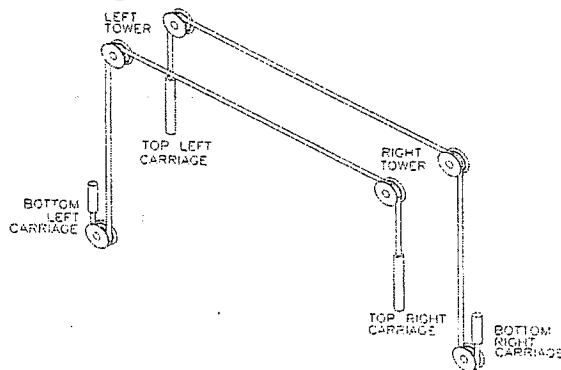
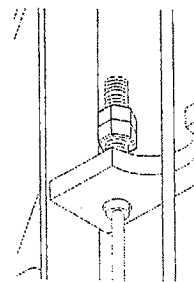
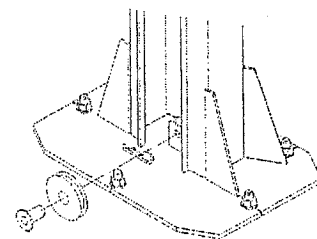

Figure 6a
Figure 6b
Figure 6c
2. Remove equalizing cables from the accessory kit box, and then locate the (8) $\frac{1}{2}$ "-13UNC nuts from a polybag in the hardware kit box.
3. Equalizing cables are to be routed as shown in Fig. 6a. Using the first cable, insert the short threaded stud through the $\frac{9}{16}$ " dia. hole at the bottom of the carriage, and feed upwards until the stud comes through the top of the carriage. Place a $\frac{1}{2}$ "-13UNC nut at the center of the stud, and then **firmly tighten** a second nut up against it using two wrenches. Pull the cable back down through the bottom of the carriage. (**Fig. 6b - cross-sectional view of bottom of carriage**).
4. At the bottom of the column, remove the hitch pin, pulley pin and pulley from the baseplate (**Fig. 6c**). Route equalizing cable around pulley and reassemble the pulley to the baseplate. **IMPORTANT - Hitch pin must be installed securely**. Then route the cable up through the carriage, around the pulley at the top of the column, across the crossmember, around the pulley at the top of the other column and then down (**Fig 6a**). Insert the threaded stud into the $\frac{9}{16}$ " Dia. hole in the top of the other carriage.